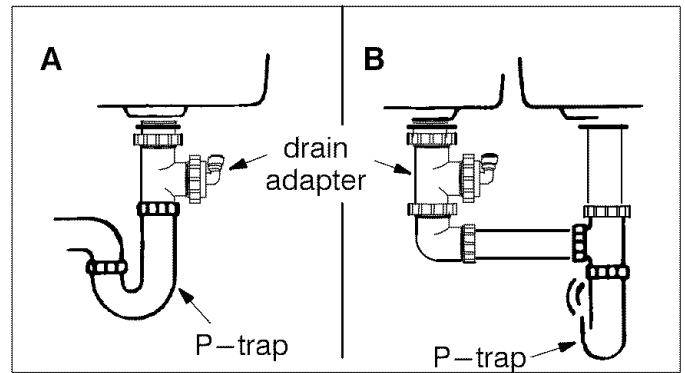
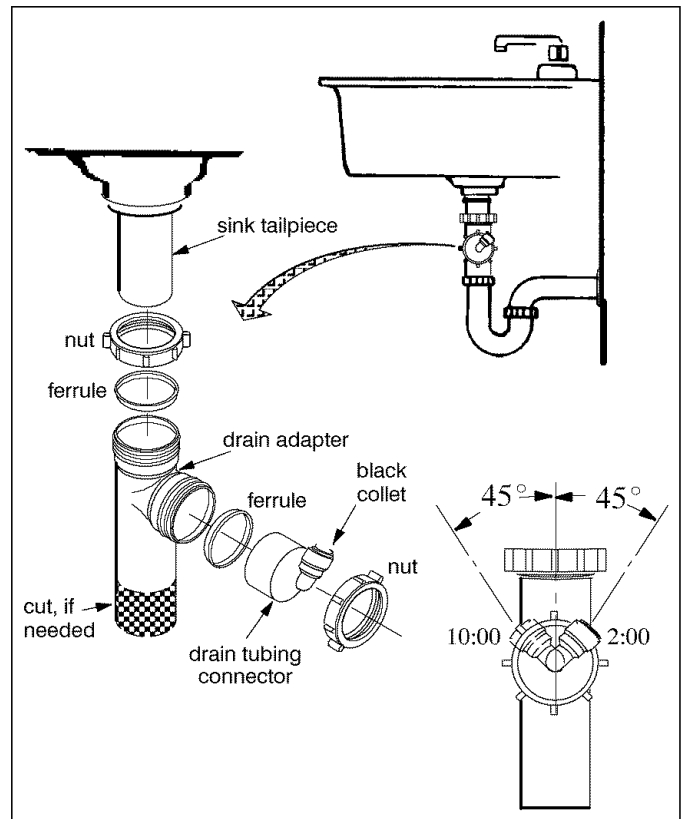

Figure 4
Figure 5
■ **Note:** Running the drain tubing directly to a floor drain, sump, standpipe, laundry tub, etc., as shown on page 19, is preferred. However, if that is not possible or practical, the included drain adapter installs in the sink drain pipe, always **above** or ahead of the p-trap, Figure 4. **Be sure to comply with your local plumbing codes.** Other drain pipe fittings, in addition to the adapter, may be needed.
■ The adapter installs directly onto the sink tailpiece as typically shown in Figure 4 and Figure 5.
1. Use a ferrule and nut to assemble the drain tubing connector to the drain adapter (Figure 5). Turn the connector to about 45° from the 12:00 position, as shown (to 10:00 or 2:00 position as needed). Tighten the nut securely.